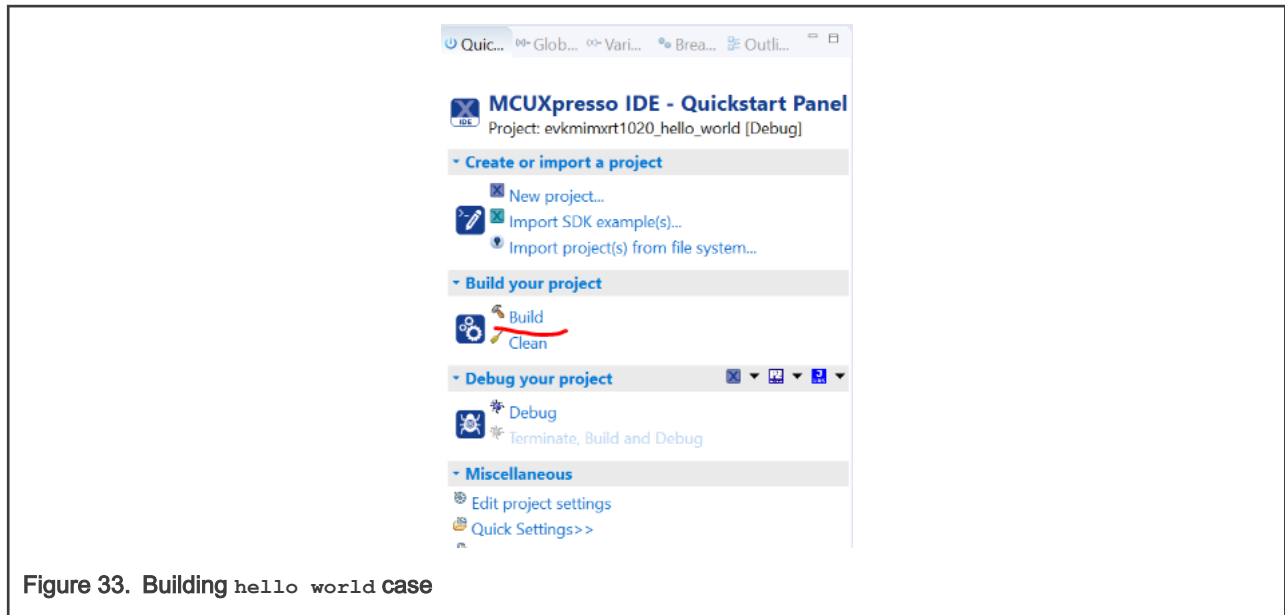

Figure 33. Building hello world case
- On the **Quickstart** panel, click **build evkmimxrt1024_demo_apps_hello_world [Debug]** , as shown in Figure 33.